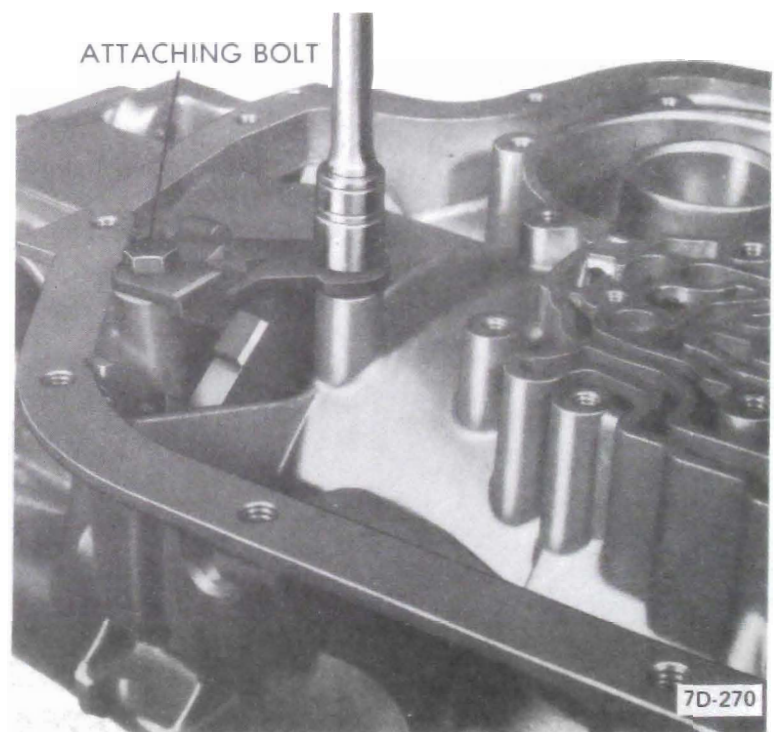

Figure 7D-270
6. Install the support to case spacer against the shoulder at the bottom of case splines and the gap located adjacent to the band anchor pin. See Figure 7D-271.